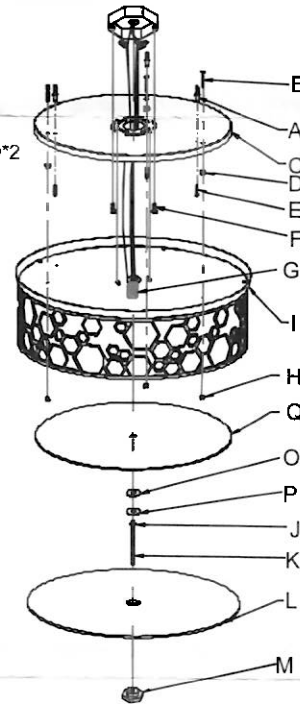

Fig. 2
CONNECTING THE WIRES (Fig. 2)
6. At this point, connect the electrical wires as shown in Fig. 2, making sure that all wire connectors are secured. If your outlet box has a ground wire (green or bare copper), connect the fixture's ground wire to it. Otherwise, connect the fixture's ground wire directly to the mounting plate using the green screw provided. After wires are connected, tuck them carefully inside the junction box.